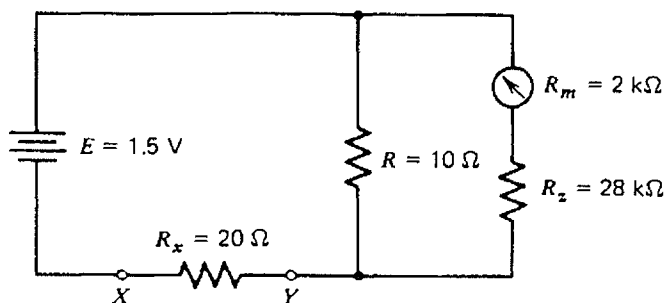

FIGURE 2-21 Circuit for Example 2-14 with ohmmeter on $R \times 1$ range.
- In Fig. 2-21 determine the current through the meter, I_m , when a $20\text{-}\Omega$ resistor between terminals X and Y is measured on the $R \times 1$ range.
- (a) When the ohmmeter is set on the $R \times 1$ range, the circuit is as shown in Fig. 2-21. The voltage across the potential combination of resistance is computed as